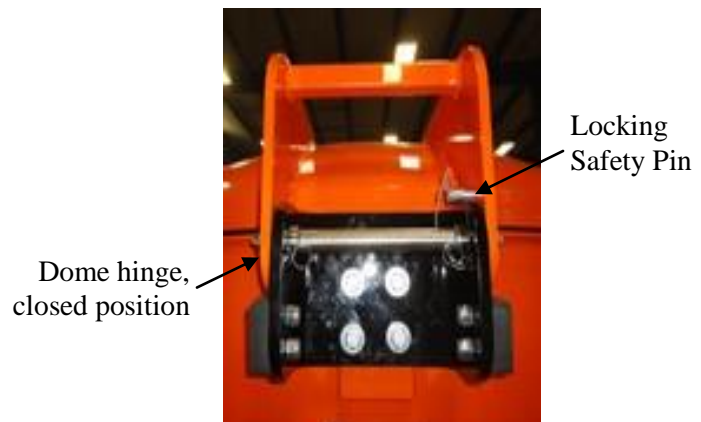

Figure 6
3. Carefully open hinged dome and install locking safety pins. **(Figure 6)**